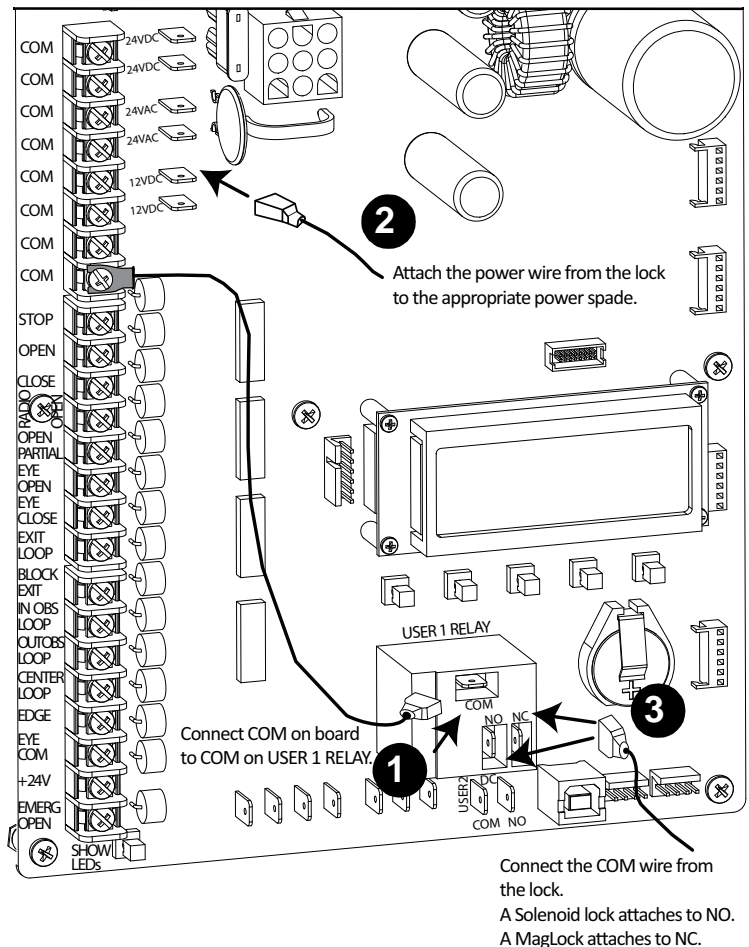

Figure 6-2.
1. Connect a wire between COM on USER 1 RELAY and a COM terminal on the Smart DC Controller board. See Figure 6-2.